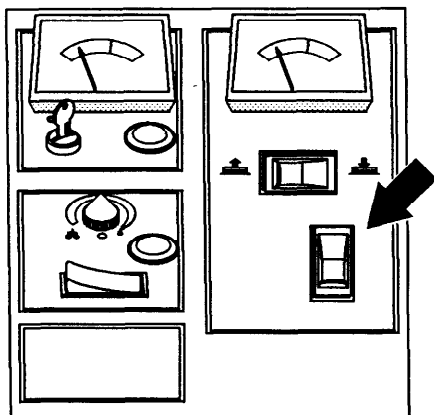

FIG. 5.
2. Select desired travel speed. Fast speed is recommended for transporting machine, however you may scrub in fast speed. Figure 5